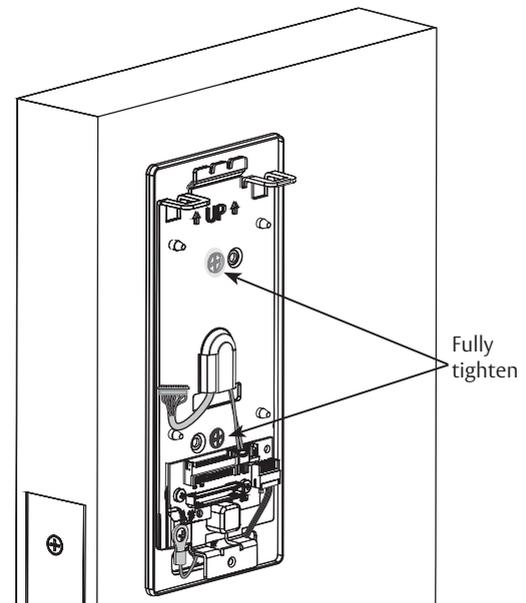

Fig. 6E
- j. Secure mounting assembly while ensuring proper alignment of outside reader and tighten two (2) through-bolts on inside of door to secure reader. (Figure 6E)